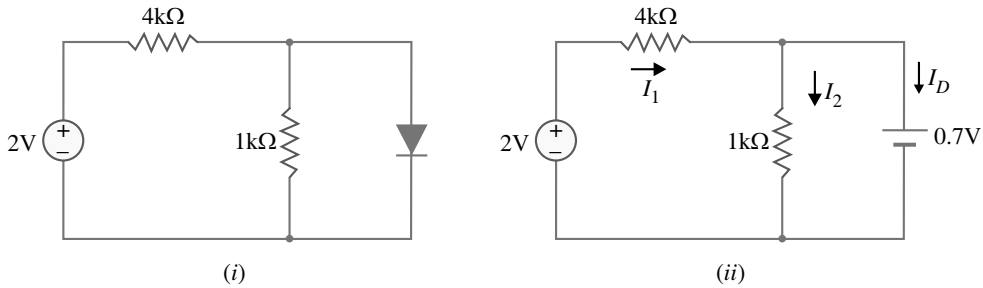
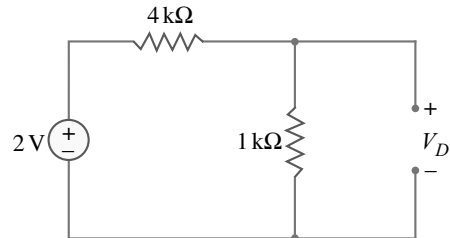

Fig. 4.23
Fig. 4.24
**Example 4.21.** Determine the state of diode for the circuit shown in Fig. 4.23 (i) and find  $I_D$  and  $V_D$ . Assume simplified model for the diode.
**Solution.** Let us assume that the diode is **ON**. Therefore, we can replace the diode with a 0.7V battery as shown in Fig. 4.23 (ii). Referring to Fig. 4.23 (ii), we have,
Since the diode current is negative, the diode must be **OFF** and the true value of diode current is  $I_D = 0 \text{ mA}$ . Our initial assumption was wrong. In order to analyse the circuit properly, we should replace the diode in Fig. 4.23 (i) with an open-circuit as shown in Fig. 4.24. The voltage  $V_D$  across the diode is